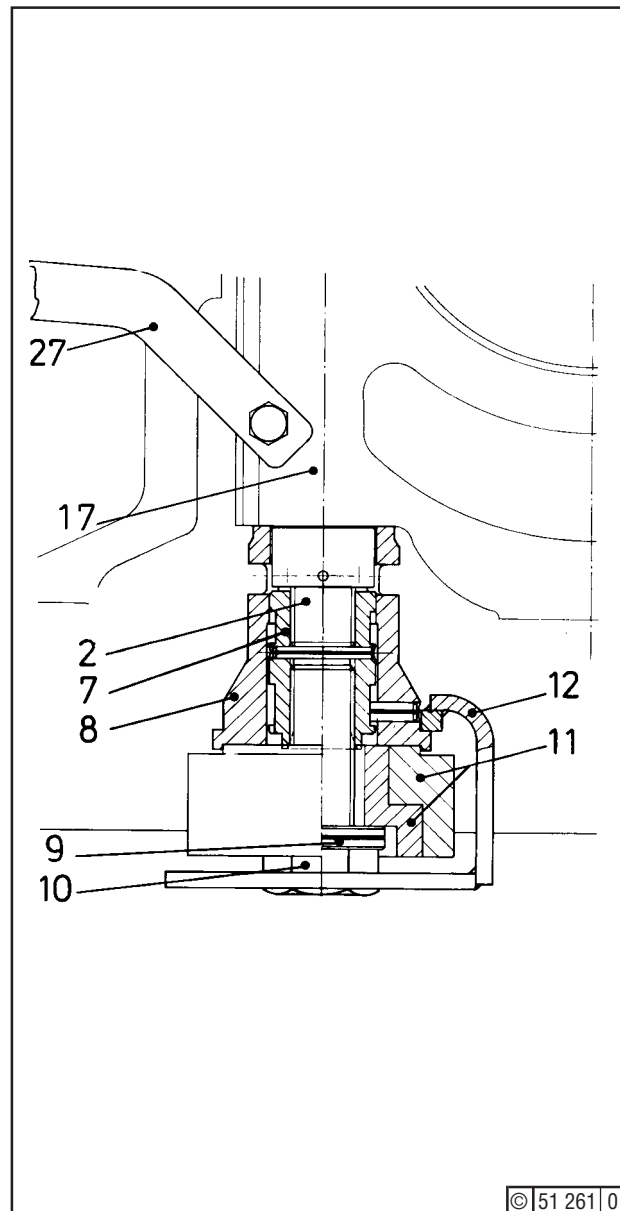

Fig. 3
Apply motor oil to threads of studs (2), and check that nuts (4) turn easily over the entire thread length. Install cap (17) with the aid of lever (27) - Fig. 3 - and screw nuts (4) in place hand-tight.
Screw clamping nuts (7) - Fig. 3 - onto studs (2) as far as they will go. Fit clamping bushes (8) on clamping nuts (7). Slip retainer (12) over bushes (8).